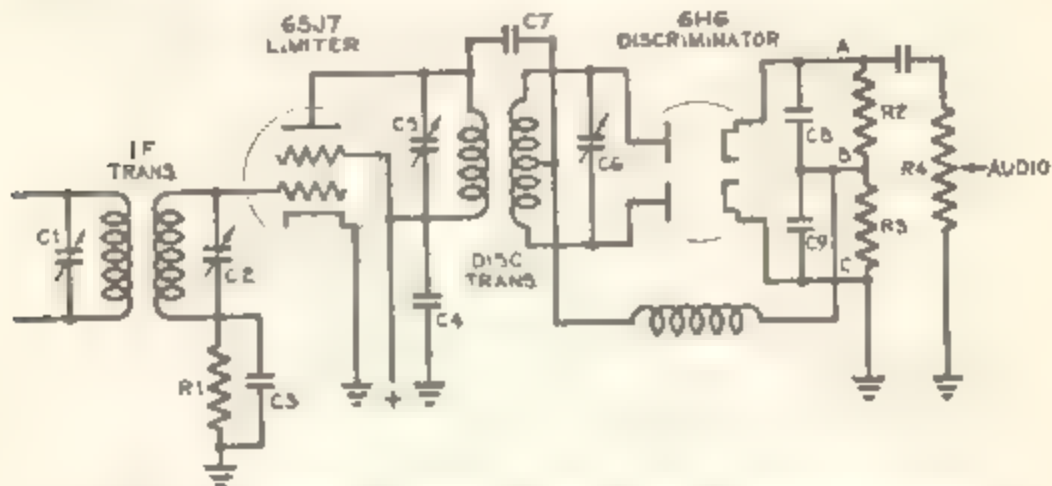

Figure 4 Simplified Circuit of FM Limiter and Discriminator
An FM receiver contains the customary RF, oscillator and IF stages. In some receivers, however, these are broadly tuned in order to pass the band of ± 75 KC. This is usually accomplished by overcoupling, resistance loading, or a combination of both. In other cases RF and IF transformers with normal characteristics are used. In addition, an FM receiver contains a limiter and discriminator. The purpose of the limiter is to cut off any amplitude modulated signals above the level of the carrier that may find their way into the circuit. Included in these are man-made electrical interference and static. The discriminator stage converts the frequency variation of the carrier into audio signals. A typical limiter and discriminator circuit is shown in Figure 4. If the manufacturer's alignment instructions are available, they should be followed, but in the absence of such instructions, the general procedure is as follows:
- c. Connect a high resistance DC voltmeter such as the Simpson 260 or preferably a vacuum tube voltmeter such as the Simpson 266 across the load resistors of the discriminator, points A and C in Figure 4.
- e. Adjust the secondary condenser shown at C6 in Figure 4 for minimum indication on the meter. This should result in zero reading across A and C. If more than one position is found for C6, use the one which causes an increase in the reading when the condenser is detuned slightly in either direction.
- a. Connect a micro-ammeter in series with the limiter grid resistor shown as R1 in Figure 4. A Model 260 can be used or if a vacuum tube voltmeter is available, it can be con-